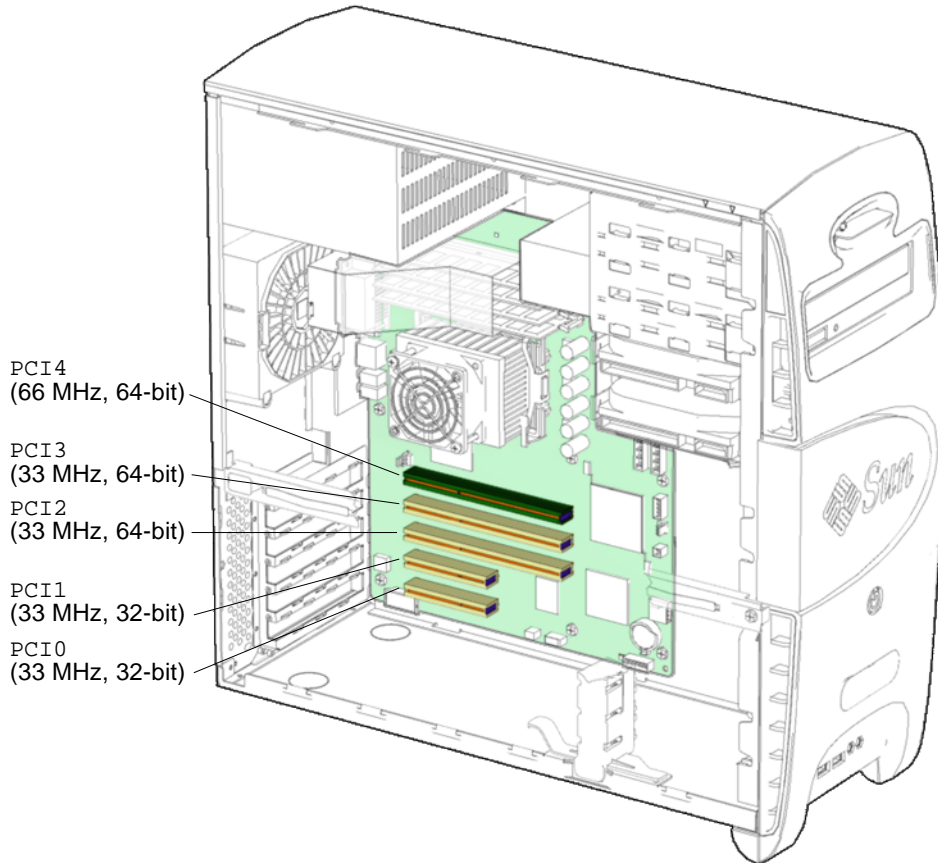

FIGURE 11-36 Identifying the PCI Card Slots
- Use FIGURE 11-36 to help determine where to install your PCI cards.